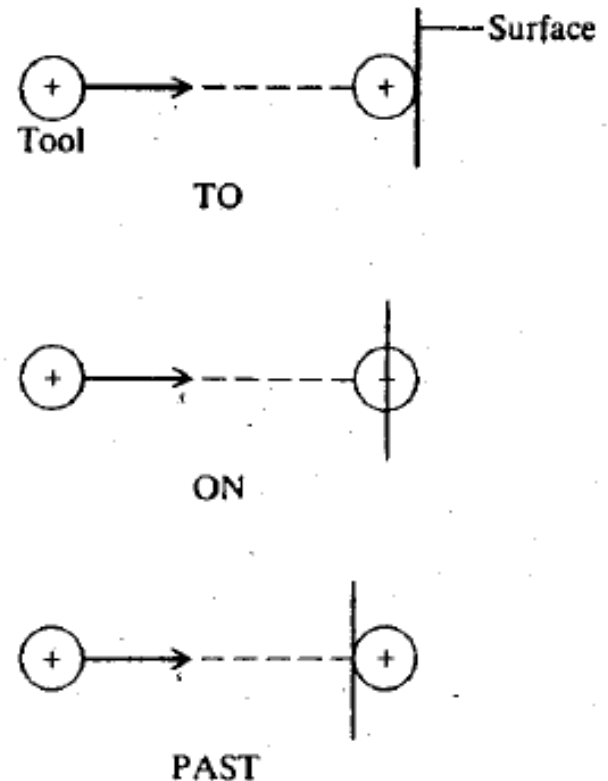

Figure 2: Meaning of TO, ON, and PAST modifiers in APT
- These modifiers indicate the desired location of the cutter with respect to the associated control surface. Figure 2 shows these meanings graphically.